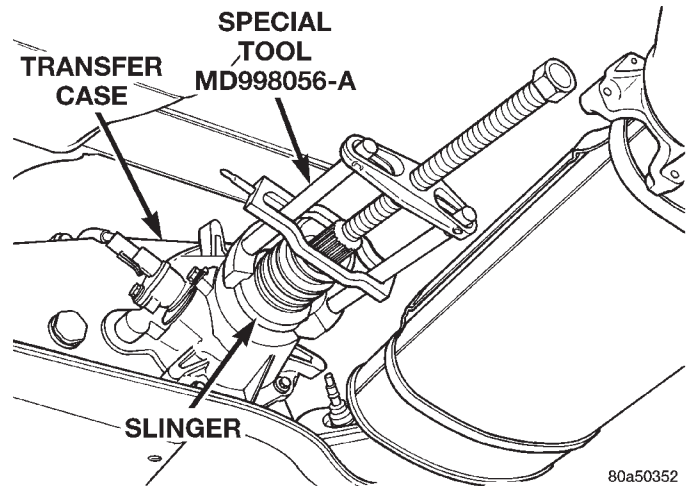

Fig. 10 Rear Slinger Removal
(2) Using puller MD-998056-A, remove rear slinger (Fig. 10).